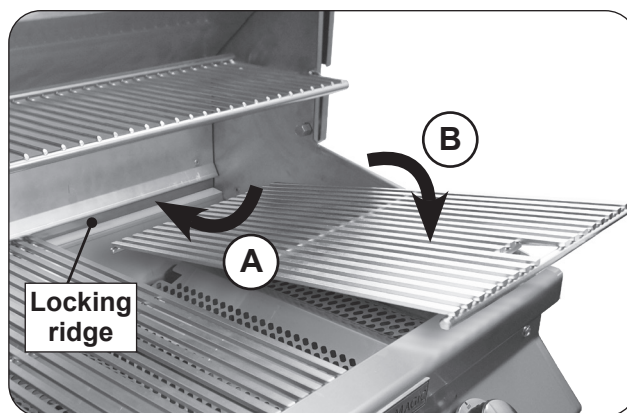

Fig. 27-3 Install cooking grids
1. Carefully place the rear of a cooking grid between the locking ridge of the rear wall (see Fig. 27-3, A). Then, carefully place the front of the cooking grid onto the front grid rest of the grill (see Fig. 27-3, B).